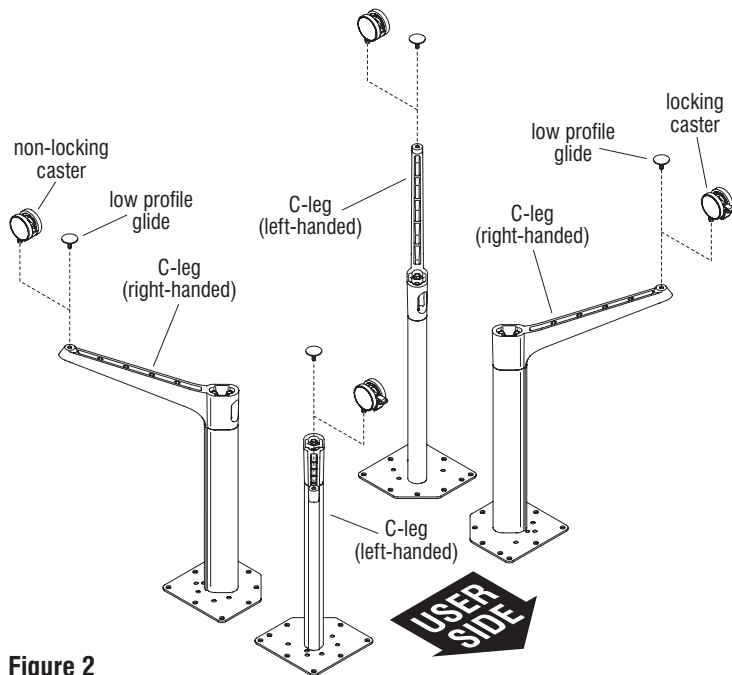

Figure 2
4. Locate the locking and non-locking casters. Locking casters are to be installed to the front, user side of each leg, and non-locking casters are to be installed to the rear of each leg. Press in fully to install the stem of one locking and one non-locking caster into the caster mounting holes at the underside of each foot (Figure 2).
6. With the C-legs upside down, thread the stem of each glide into the threads at the end of each foot (Figure 2).